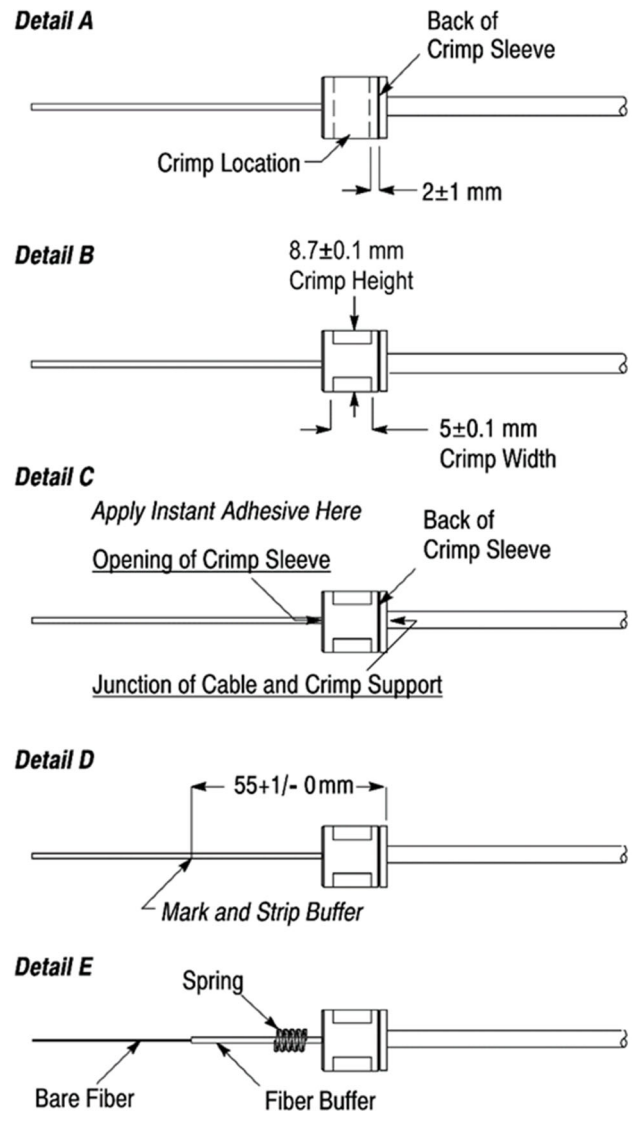

Figure 5
7. Place the crimp sleeve in the 8.6-mm hex nest of the hand tool, and crimp the crimp sleeve onto the crimp support. Make sure to position the crimp sleeve in the hex nest so that the crimp will locate from the back of the crimp sleeve to within the dimension shown in Figure 5, Detail A.
8. Using the micrometer or caliper, measure the crimp sleeve across the flats of the hex crimp to make sure that it conforms to the crimp height and crimp width shown in Figure 5, Detail B. If necessary, crimp again, and re-measure the crimp.
9. At the back of the crimp support, apply the instant adhesive around the circumference of the crimp support at the junction of the cable and the crimp support. Then at the front of the crimp sleeve, apply the instant adhesive over the opening of the crimp sleeve to encapsulate the strength members. See Figure 5, Detail C. Remove any excess adhesive.
10. Mark the fiber at the dimension shown in Figure 5, Detail D, and using the fiber stripping tool, strip the buffer to the mark, exposing the bare fiber. Using a lint-free tissue or cloth dampened with the isopropyl alcohol or acetone, clean the bare fiber.
11. Slide the spring onto the fiber buffer. See Figure 5, Detail E.